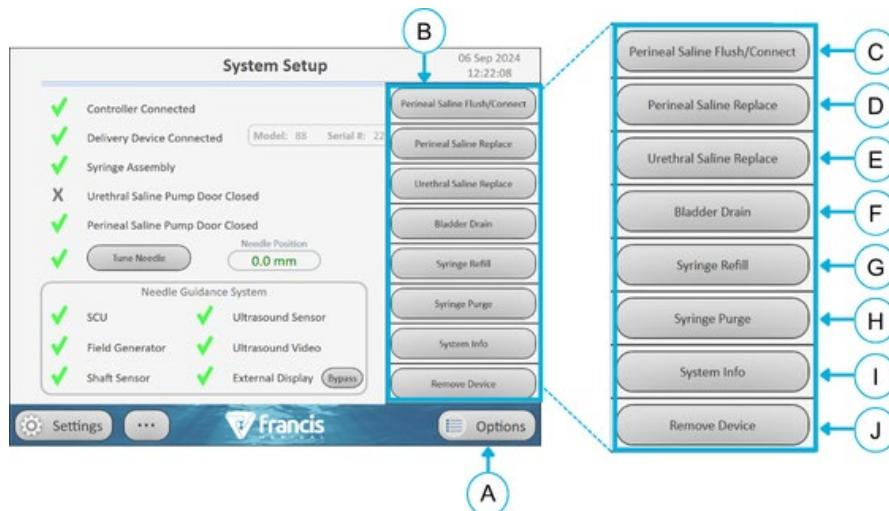

Figure 7-5: Options Menu
Select **[Options]** in the bottom-right corner of the Generator screen (A). The Options Menu will appear along the right side of the screen (B) (see **Figure 7-5**).